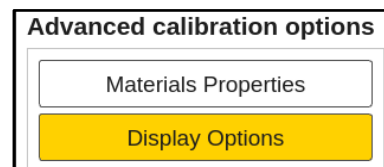

Figure 49: *Advanced calibration options*
Use the up/down arrow keys ▼ ▲ ① to select 'Display Options' (see Figure 49: *Advanced calibration options*) and press the OK button ③ from the input panel.
The display options (see Figure 50: *Display Options*) will configure your display and the bounds in the trend chart (see Figure 49: *Principle of Application Bounds*).